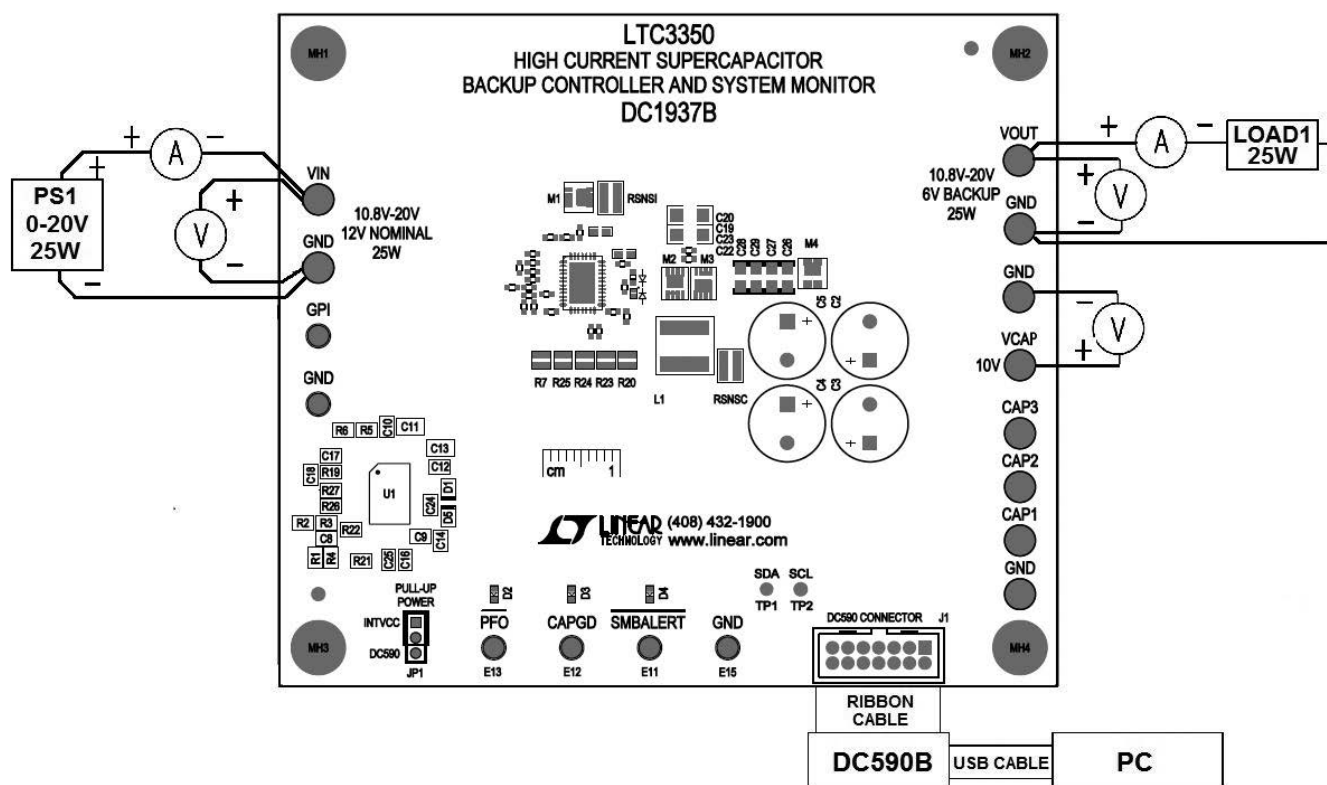
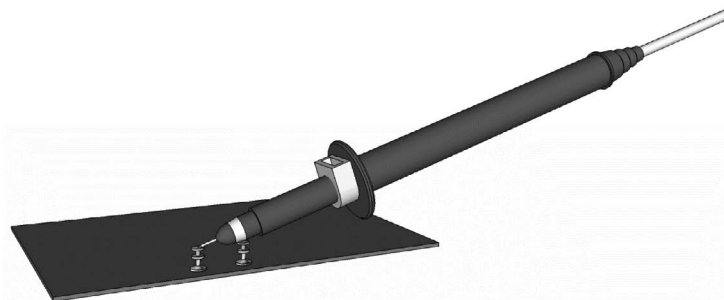

Figure 1. Proper Measurement Equipment Setup
Figure 2. Measuring Input or Output Ripple
Obtain and connect a DC590B board to the DC1937B board. Using short twisted pair leads for the power connections and with the LOAD and the power supply OFF. Refer to Figure 1 and Figure 2 for the proper measurement and equipment setup. Follow the procedure below.
7. With power off, connect a 0V to 20V, 25W supply between the VIN and GND terminals with a series ammeter and a voltmeter as shown in Figure 1.